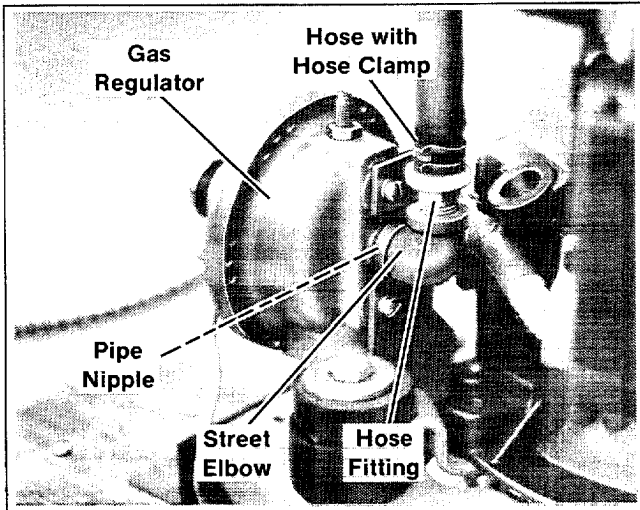

Figure 3. Mounting LP Gas Regulator
5. Mount bracket (228129-GLD) to back of gas regulator and then to mounting tray using one screw (X-117-5), lock washer (X-19-1), and nut (X-70-2). See Figure 3. Locate in hole farthest from mounting tray edge. Do not final tighten.